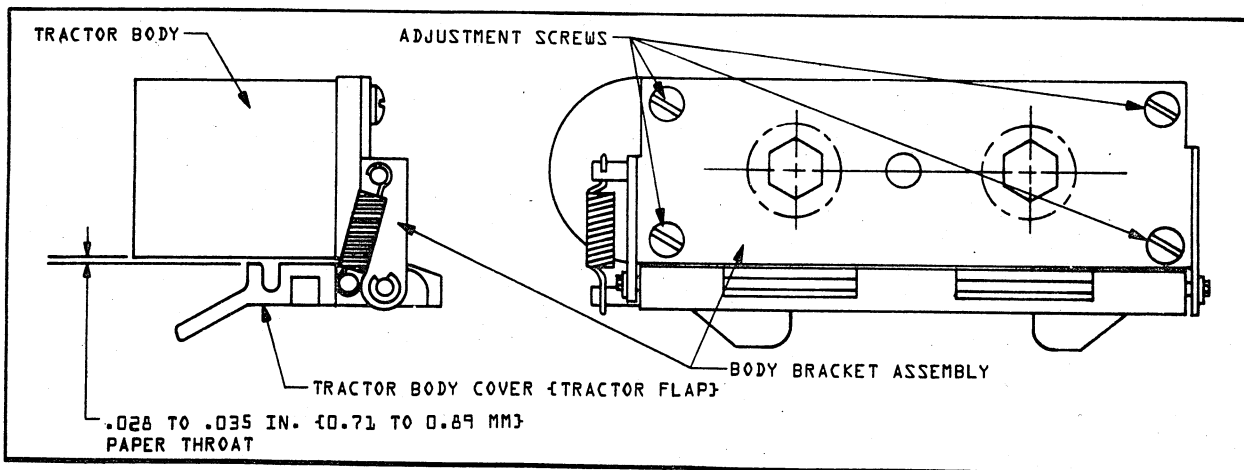

FIGURE 7-6 TRACTOR ASSEMBLY
Tests (Figure 7-6)
1. Check the clearance between the front face of the tractor body and the tractor body cover per Figure 7-6.
Adjustments (Figure 7-6)
2. Adjust the body bracket assembly to obtain the clearance shown in Figure 7-6.